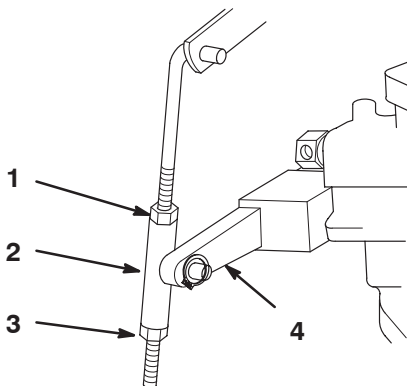

Figure 52
4. Loosen top and bottom jam nuts at pump arm neutral adjustment sleeve (Fig. 52).
5. Push down on Pump Arm until Sleeve contacts bottom nut (Fig. 52). Wheel should now be rotating slowly in reverse.
6. Turn bottom nut up slowly, moving sleeve and pump arm up, until wheel stops rotating (Fig. 52).
7. Turn top nut down against sleeve and tighten to lock the adjustment (Fig. 52).